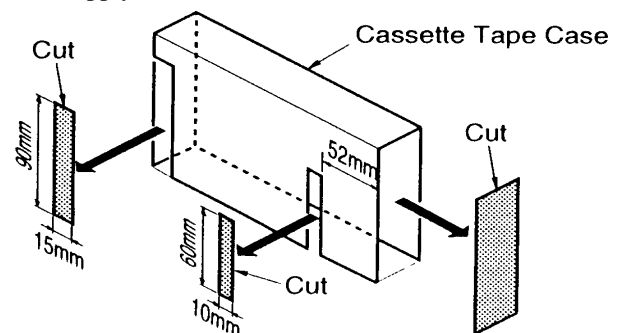

Fig. 4 - Hot Chassis Safety Cover
Caution: **HOT CIRCUIT** (Primary circuit) exists on the Main circuit board. Use extreme care when servicing to prevent electrical shock. Refer to Fig. 4 for suggested safety procedure.
Hot Chassis Safety Cover (Fig. 4)
Using a cassette tape cover, cut and fashion it to the specifications shown in Fig. 4. After preparing the tool from the cassette cover, place it over the power supply section on the Main circuit board to prevent accidentally touching the power supply.
6. Cover the Power Supply section on the Main circuit board with the **Hot Chassis Safety Cover** (Fig. 4.) to prevent electrical shock when servicing.